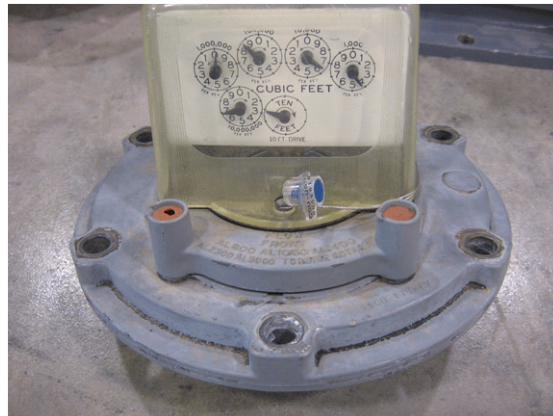

Figure E.1 Index Base Plate
- 1 Meters encountered with the index base plate (Figure E.1) require the base plate replaced with one that does not have integral “towers”. The American Meter part number for a Base Plate with no towers for Diaphragm meters is 48828P038. Refer to www.americanmeter.com for more information.